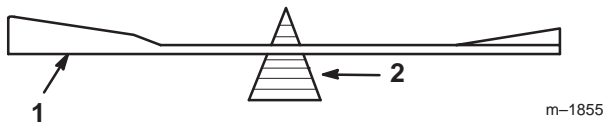

Figure 25
2. Check the balance of the blade by putting it on a blade balancer (Fig. 25).